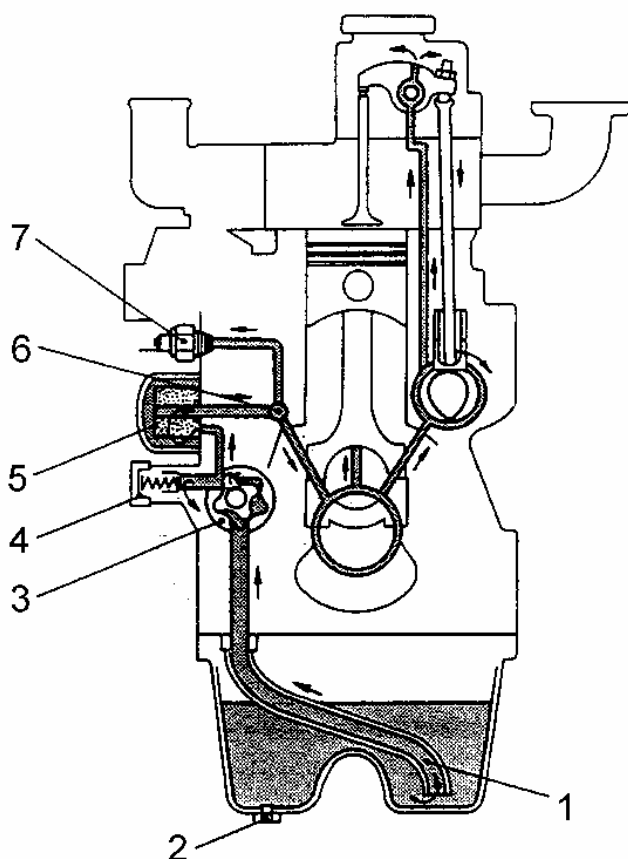

Fig. F-1: Oil lubrication system MITSUBISHI 1503
- remove the drain plug (2) from the oil sump (Fig. F-1), drain the oil completely and screw the plug
- remove contaminated filter (POS. 5, Fig. F-1)